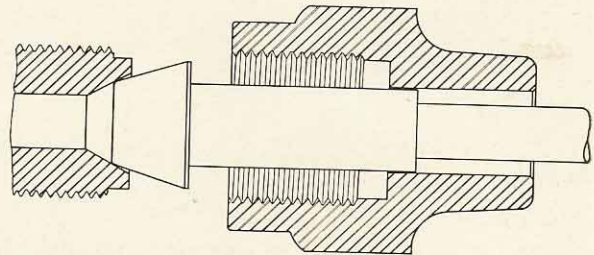

FIGURE 4-13
26. HIGH-PRESSURE FUEL FITTINGS: It is not an easy matter to hold 4,000 pound fuel pressure without leakage occurring, and ordinary pipe fittings would be entirely inadequate. Special fittings, called compression fittings, shown in Figure 4-13, are used and are made up without gaskets or any sealing compound. These fittings do not need to be drawn as tightly as you might imagine, in fact, drawing them up too tight may injure the fitting.